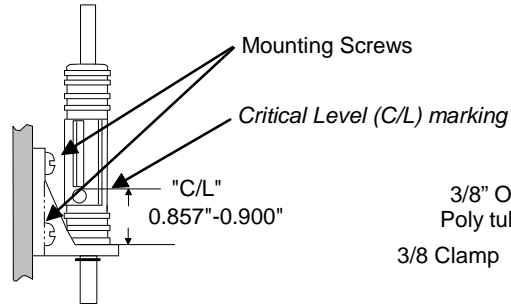

Fig 1-4
4. The AG110-001 must be installed with the "C/L" line above the sink's rim, sump, floor drain, floor grate, or standpipe where the discharge tubing is terminated. The AG110-001 must be installed vertically. Secure AG110-001 with provided mounting screws (See Fig 1-4).